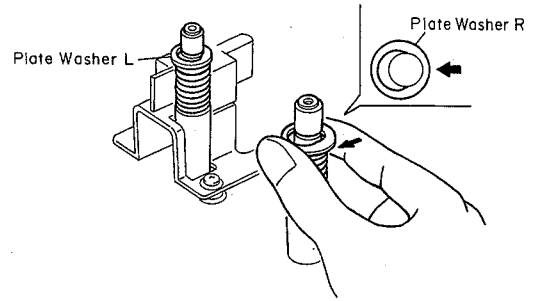

Fig. 2.11.1
Note: When mounting the Head Mount Base Ass'y, follow the next steps. Refer to Figs. 2.11.1 and 2.11.2.
- (a) Insert the Plate Washer into the groove of the shaft by hand as shown in Fig. 2.11.1.